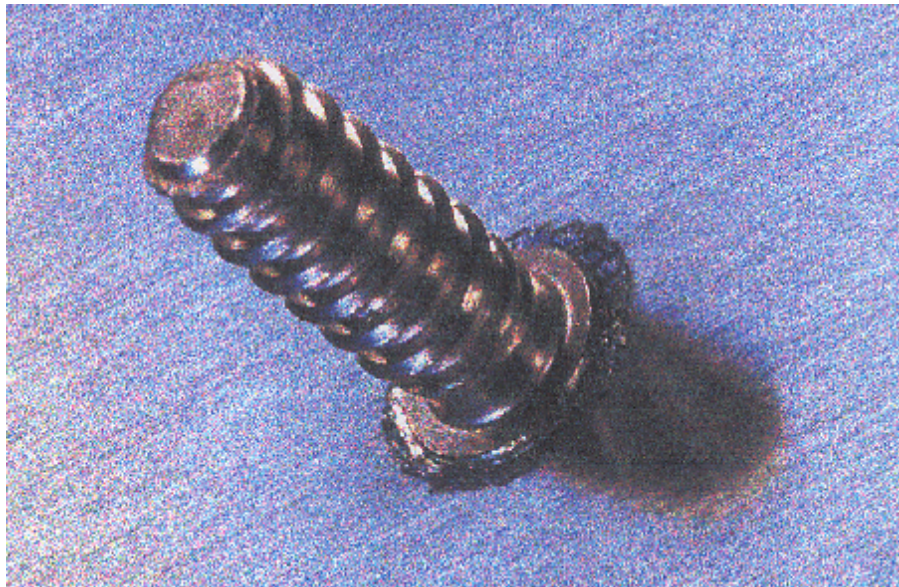

Figure 7
- The welds shall look similar to weld in fig. 7.
- The welds shall look similar to the photograph in fig. 7.
See fig. 7 for picture of a successful stud-weld, which can be used for guidance.